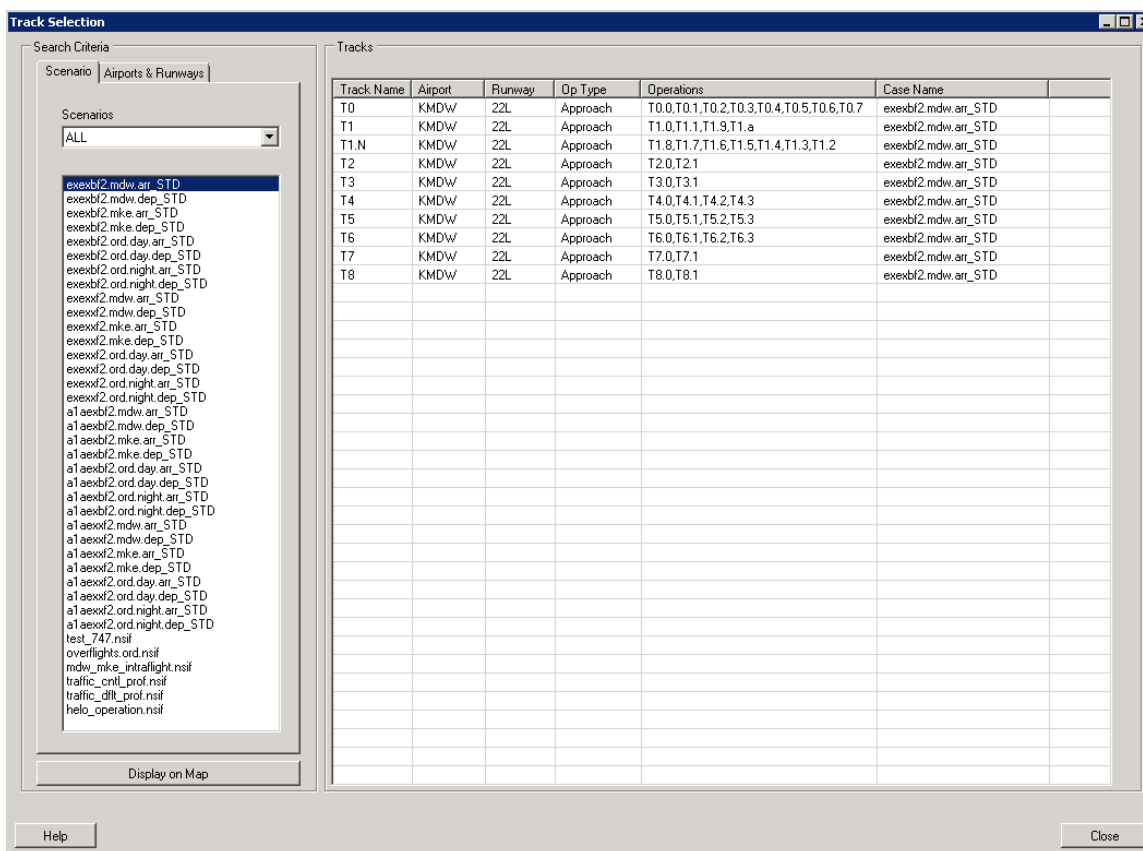

Figure 6-2 Track Selection Dialog Box
1. From the menu bar select *View, Tracks*. The *Track Selection* dialog box will open (Figure 6-2).